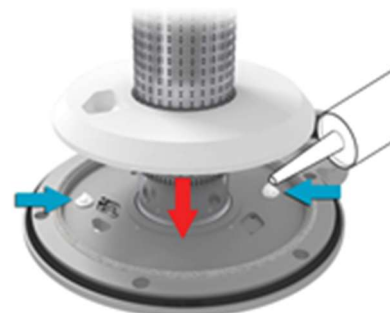

Figure 21.14
- put two dots of temperature-resistant silicone glue according to the location indicated in figure 21.14. Use only either Loctite 5366 or Ottoseal S17.